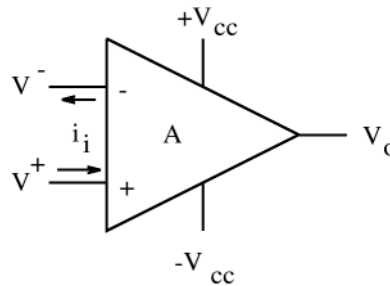
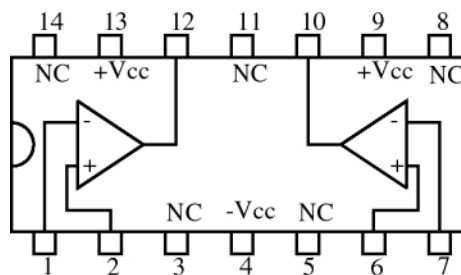
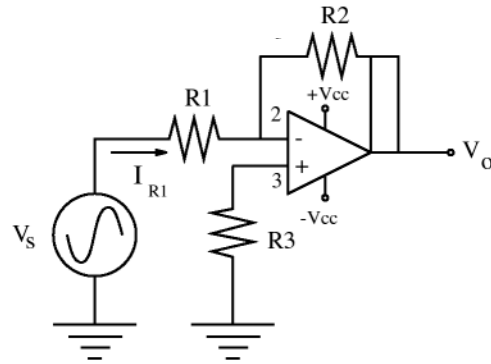
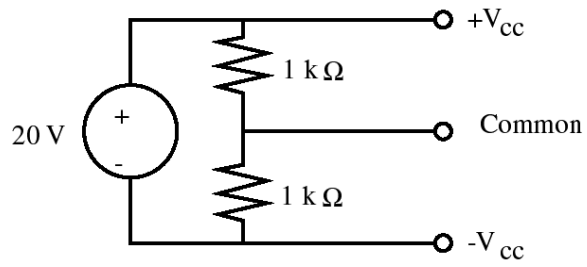

Figure 3: Operational Amplifier
Figure 4: 747 Operational Amplifier
Figure 5: Inverting operational amplifier circuit
Figure 8: Power supply circuit
Figure 3 shows an operational amplifier with an open-loop voltage gain **A**. The terminals labeled  $+v_{cc}$  and  $-v_{cc}$  are power supply connections to the op-amp and set limits on the voltage which can be produced at the output node. The op-amp we will be using is the 747 as shown in Figure 4. The 747 is a dual op-amp integrated circuit (IC) containing two 741 op-amps.
Figure 5 shows an op-amp in the inverting configuration along with the power supply connections  $+v_{cc}$  and  $-v_{cc}$ . Future circuit diagrams will show only the signal portion of the circuit with the understanding that the power supply connections are required for proper operation of
For this experiment, you will need a power supply which can provide +10 volts, -10 volts and a **common** ground. However, the power supply at your station is not equipped to provide both positive and negative 10 volts relative to earth ground. So we are going to "trick" the op-amp circuit by a clever use of a single power supply. Assemble the circuit shown in Figure 8. From the standpoint of the bench (20 V) power supply,  $-v_{cc}$  is ground, **common** is 10 volts and  $+v_{cc}$  is 20 volts. However, from the standpoint of the op-amp, **common** will be used as ground (not the same as earth ground) so that  $+v_{cc}$  is now only 10 volts and  $-v_{cc}$  is -10 volts. We have switched reference frames so that  $+v_{cc}$  is now only 10 volts and  $-v_{cc}$  is -10 volts. Measure and record the values of  $-v_{cc}$  and  $+v_{cc}$  using **common** as the reference (ground) node.
- 1) Select, measure, and record the values of three resistors,  $R_1 = 5k\Omega$ ,  $R_2 = 20k\Omega$  and  $R_3 = 5k\Omega$ . Obtain a 747 op-amp. Assemble the circuit shown in Figure 5. Be sure to include the power connections  $+v_{cc}$  and  $-v_{cc}$  from the power supply circuit of Figure 8 to  $+v_{cc}$  and  $-v_{cc}$  of the 747 chip as shown in Figure 4. In addition, the **ground** nodes shown in Figure 5 are to be connected to the common node of Figure 8. Note that Figure 4 shows two  $+v_{cc}$  connections. There are two 741 op-amps in each 747 chip. There is a separate  $+v_{cc}$  for each op-amp. Connect a wire between the two  $+v_{cc}$  pins. Also note that the pins labeled NC are **not connected** to anything.
- 7) Build the power splitter shown in Figure 8 on your project board.